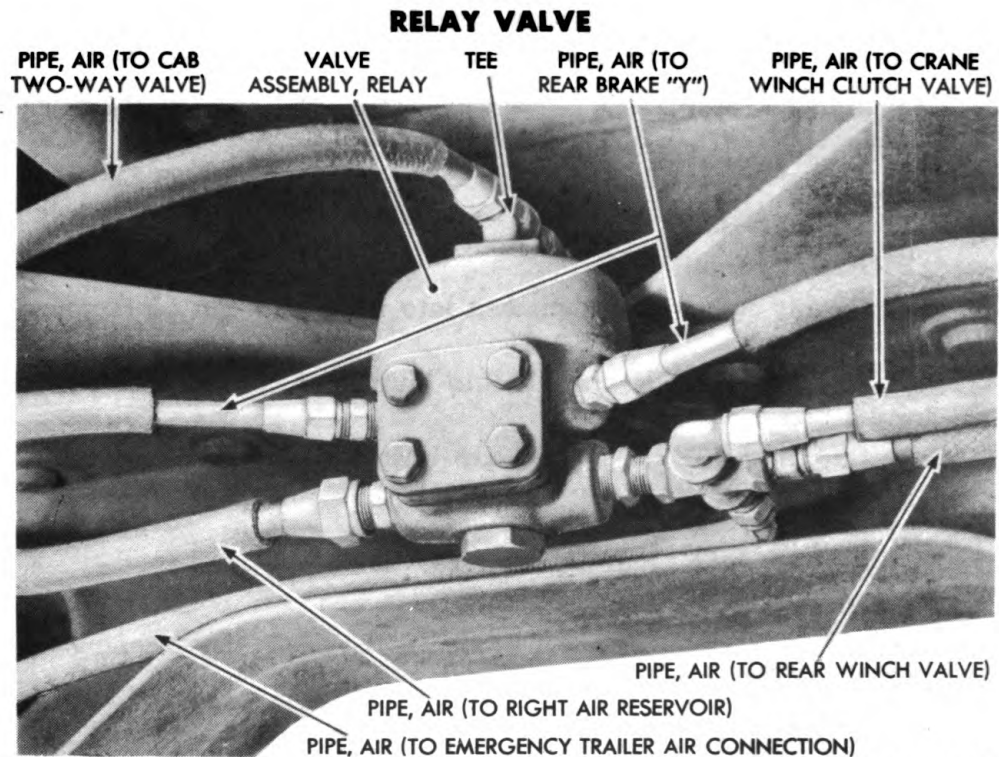

Figure 56—Relay Valve
b. There are six air pipes leading from the relay valve to operate different units of the wrecker (figs. 56 and 68).
(1) DISCONNECT AIR PIPES (fig. 56).
(a) Disconnect two air pipes at the "T" on top of relay valve. Disconnect the two air pipes at left and right side of center of relay valve ($\frac{7}{8}$ -in. open-end wrench) (fig. 56).
(b) Disconnect the three air pipes on the four-way connection (left side of relay valve) ($\frac{7}{8}$ -in. open-end wrench) (fig. 56).
(c) Disconnect air pipe at lower right side of relay valve ($\frac{7}{8}$ -in. open-end wrench) (fig. 56).
(b) Connect air pipe at lower right side of relay valve ($\frac{7}{8}$ -in. open-end wrench) (fig. 56).
(c) Connect the three air pipes on the four-way connection (left side of relay valve) ($\frac{7}{8}$ -in. open-end wrench) (fig. 56).
(d) Connect the two air pipes at the "T" on top of relay valve ($\frac{7}{8}$ -in. open-end wrench). Connect two air pipes at left and right side of center of the relay valve ($\frac{7}{8}$ -in. open-end wrench) (fig. 56).